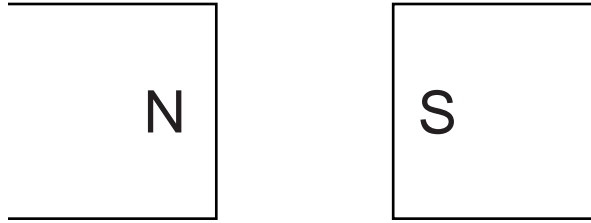

Fig. 10.1
- 5 (a) Fig. 10.1 shows the gap between the N-pole and the S-pole of a magnet.
On Fig. 10.1, draw four field lines to show the pattern and direction of the magnetic field in the gap. [2]